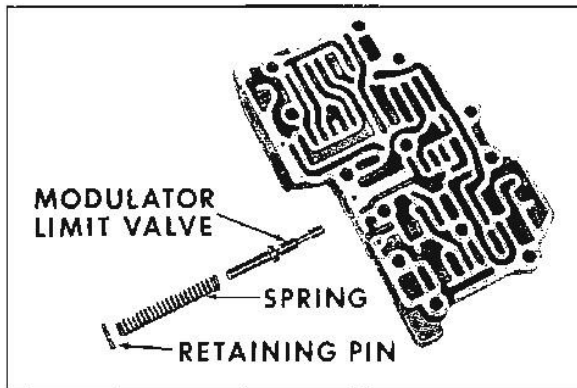

Fig. 7B-47 Modulator Limit Valve - Exploded View
3. Depress modulator limit valve spring (using J-21361) and turn valve body over so that retaining pin falls free. Remove spring and valve (Fig. 7B-47). (Needle nose pliers can be used to depress spring and work out pin.)